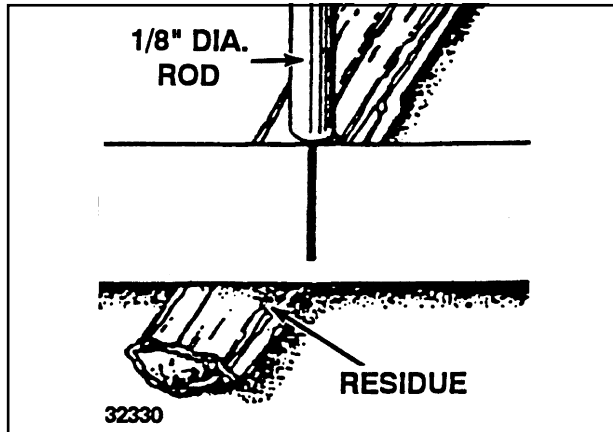

Figure 4-17 Mark On Residue
- Count all pieces of residue, $\frac{1}{8}$ " diameter or larger, under each mark (See Figures 4-17 and 4-19).